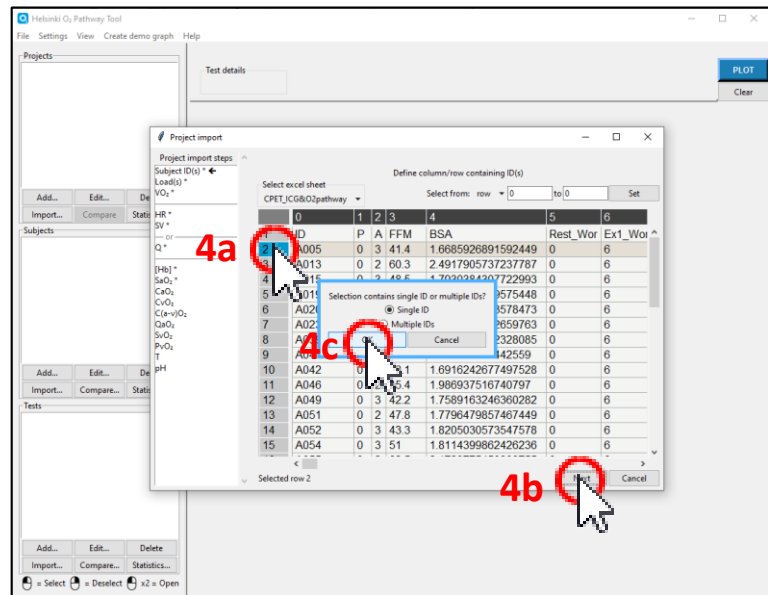

Figure 38
4. Data import wizard is started (figure 38).